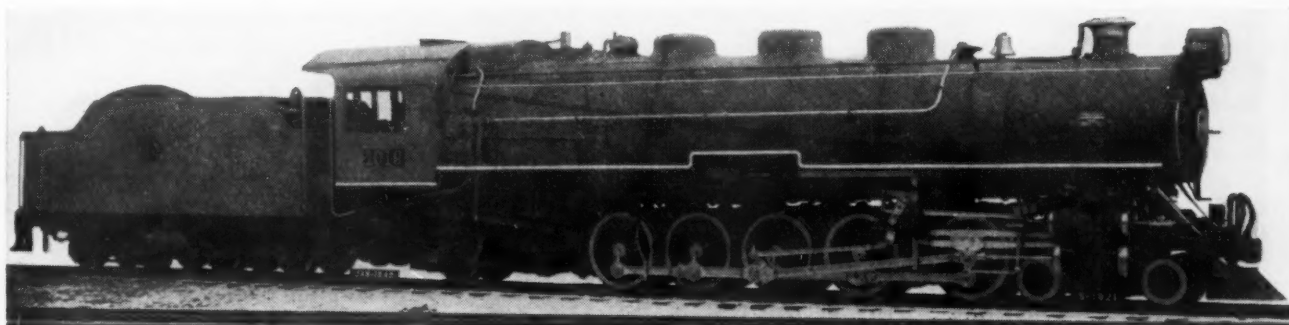
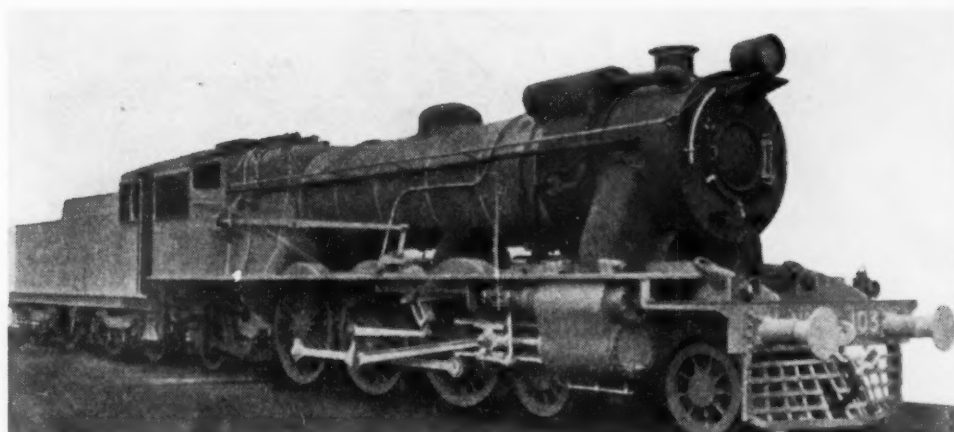
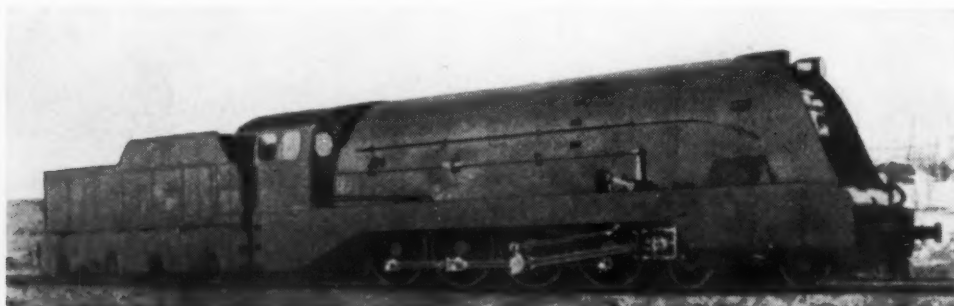
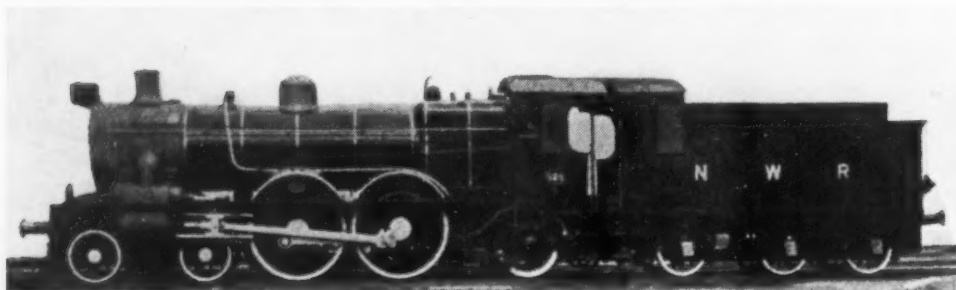

FIG. 15 SOROCABANA 4-10-2
FIG. 16 INDIAN RAILWAYS BOARD INTERMEDIATE 4-6-2
FIG. 17 MADRID, ZARGOSA & ALICANTE 4-8 2
FIG. 18 REBUILT 4-4-2 NORTH-WESTERN RAILWAY OF INDIA
Operators of the narrow-gauge railways of South America definitely prefer a nonarticulated engine, and item 6 (Fig. 15) is representative of a number of 4-10-2 and 2-10-4 engines built for export in recent years. Item 7 (Fig. 16) is a passenger Pacific of intermediate weight built by Vulcan Foundry for service in India. There are one lighter and two heavier classes in service. This is one of the standard types designed by the engineers of the Indian Railway Board. Item 8 is a 4-8-2 passenger engine built in Barcelona for service on the Madrid, Zargosa and Alicante Railway, Fig. 17. Item 9 (Fig. 18) is another Indian engine, a 4-4-2 originally built in 1905-1908 for the Great Indian Peninsula Railway. In 1925-1928, the engine was reboilered, the new boiler having super-